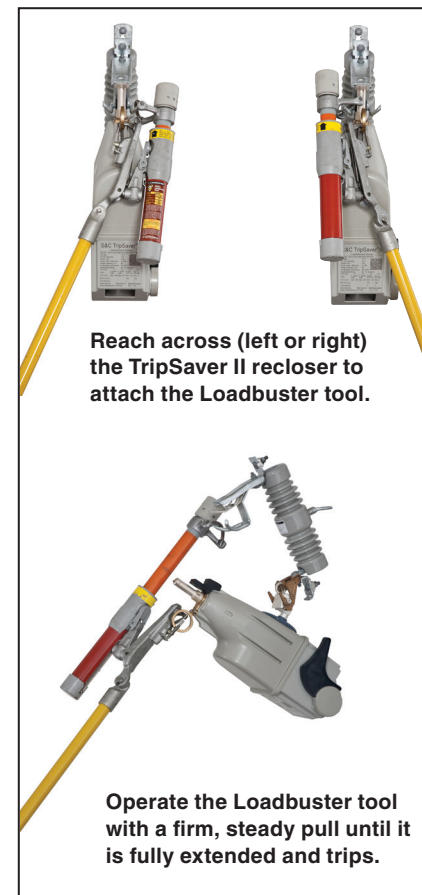

Figure 2. Operation with a Loadbuster tool.
STEP 3. Attach the Loadbuster tool so it reaches across in front of the TripSaver II recloser. Never attach the tool with its anchor hooked on the closest side of the recloser. See Figure 2.
STEP 4. Swing the Loadbuster tool toward the TripSaver II recloser and pass the Loadbuster tool pull-ring hook through the pull-ring on the recloser. The pull-ring latch will deflect, and after complete entry of the pull-ring, will spring back, locking the tool to the pull-ring and connecting the tool across the upper contacts of the TripSaver II recloser. See Figure 2.